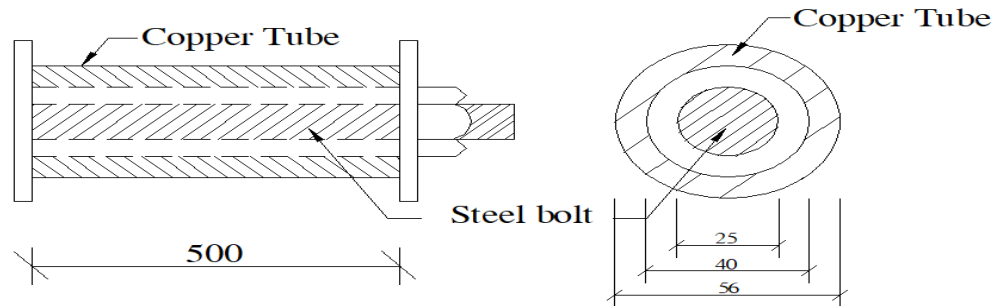

Figure 3
- b) A steel bolt of 25 mm diameter passes centrally through a copper tube of internal diameter 40 mm and thickness 8 mm. If the length of the composite section is 500 mm, what stresses will be introduced by 60° turn, if the pitch of thread is 4 mm. Assume  $E_s = 200$  GPa and  $E_c = 100$  GPa. Refer Figure 3. 10